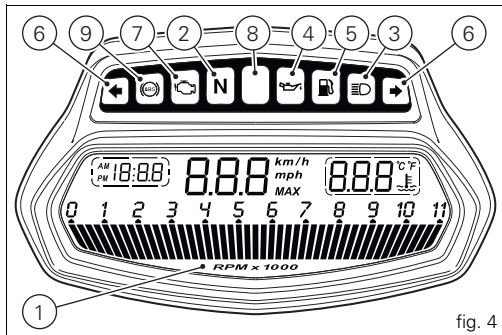

fig. 4
- 8) Limiter light "Over rev"/traction control light "DTC" (RED) (fig. 4):
- 9) ABS LIGHTS  (AMBER YELLOW) (fig. 4).
In the event of a sensor "error", a string of flashing dashes ("---") is shown and the "Engine/vehicle diagnosis - EOB" light (7, fig. 4) comes on.